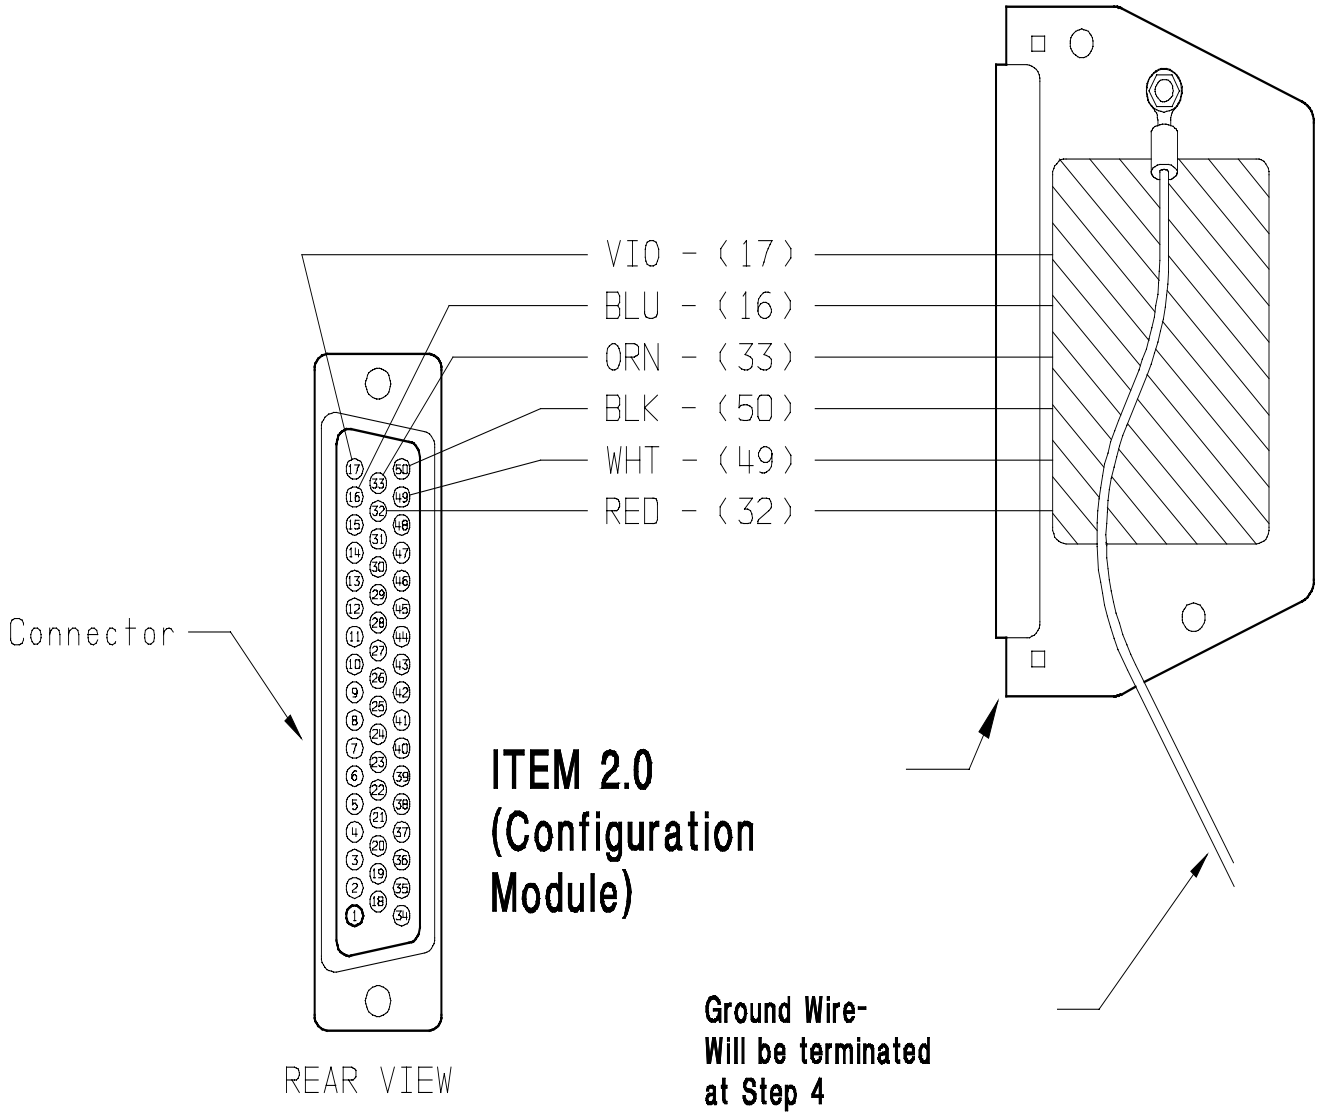

FIGURE 2-1.2 MK XXII EGPWS CONFIGURATION MODULE
Wire item 2.0 (Configuration Module). This part will replace item 1.4 (Backshell plate). Install the pre-crimped colored wires into item 1.1 (Connector) as shown in figure 2-1.2 below.